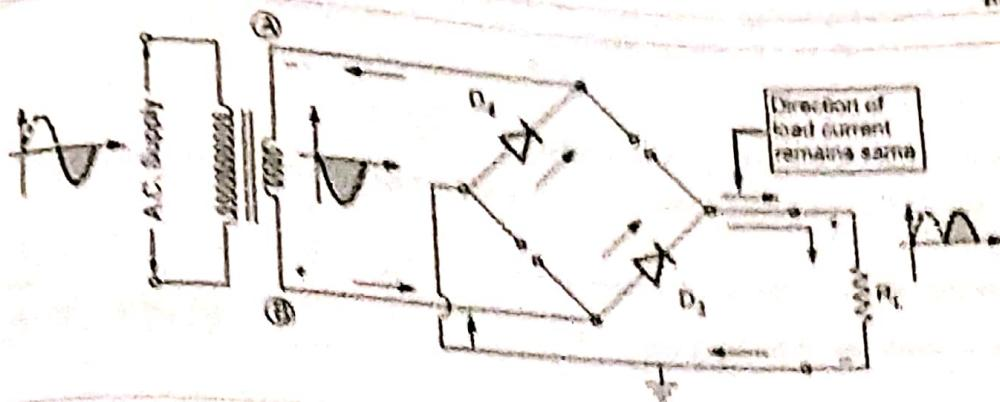

Fig. Q.19.3 Current flow during negative half cycle
- In the next half cycle, when the polarity of ac voltage reverses hence point B becomes positive diodes D₃ and D₄ are forward biased, while D₁ and D₂ reverse biased. Now the diodes D₃ and D₄ conduct in series with the load and the current flows as shown in Fig. Q.19.3.